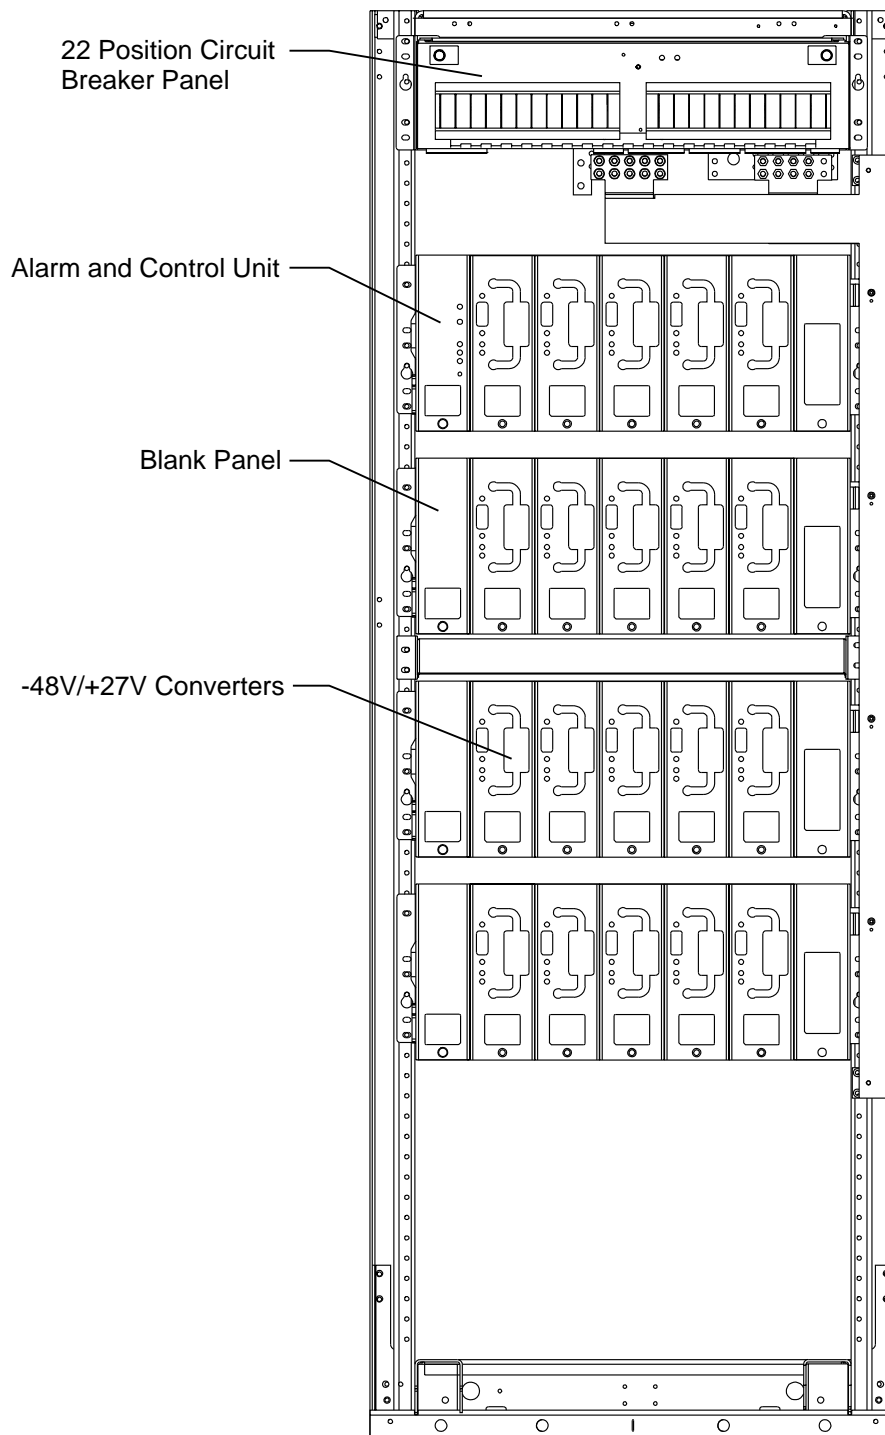

Figure 4-4: CPS Module Positions
The ES643 ACU (alarm control unit) ships loose and is mounted in the initial (top) CPS shelf. Figure 4-4 shows the location of the ACU. The Battery on Discharge (BD) threshold on the ACU is pre-set in the factory at 25.5 volts. On switch SW440 of the ES643, the following switch settings support a 25.5V BD threshold: dip switches 2, 4, 5 and 6 are closed; switches 1 and 3 are open. Refer to “Voltage Threshold for the BD Alarm” in section 5 for more information. The ACU may be removed/installed using the 3/16 inch Allen wrench, the recommended torque for the module’s mounting fastener is 12 in-lbs maximum.
- Install each module by placing it on the appropriate power shelf and carefully sliding it toward the backplane until its mounting screw prevents any further backward motion. Figure 4-4 shows the positions of the converters and the distribution panel. Do not seat the power modules until testing of the installation is complete.